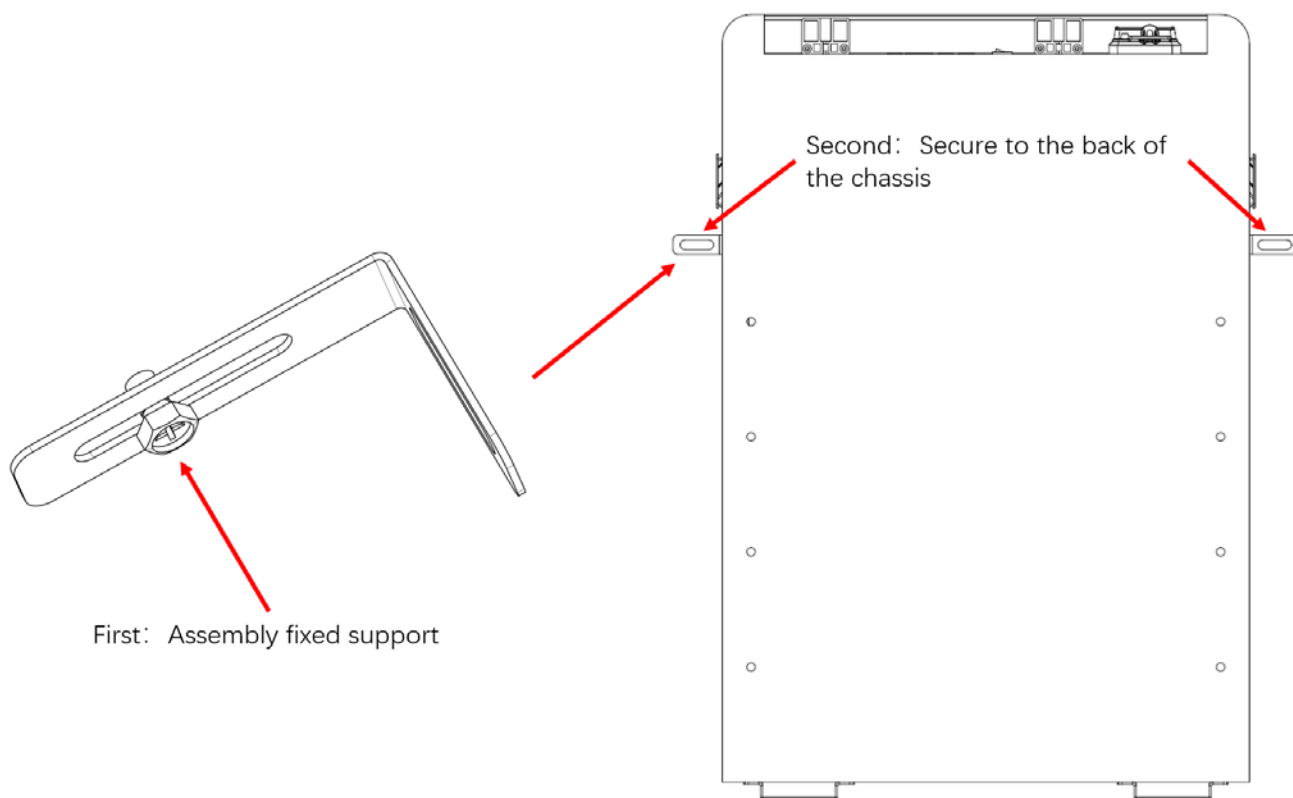

Figure 5-4
- a) Use the 4 screws of M6*10 to fix the left and right retaining ears to the back of the battery, as shown in Figure 5-4.